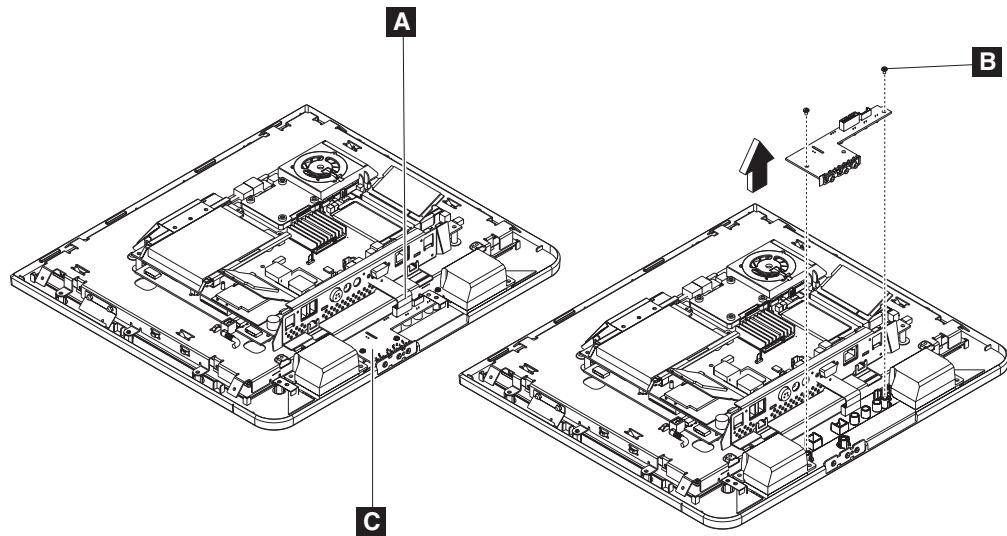

Figure 25. Removing the control card
2. See Figure 25. Disconnect the control panel cable (A).
3. Remove the two screws (B) that hold the control card (C) in place, and lift out the card